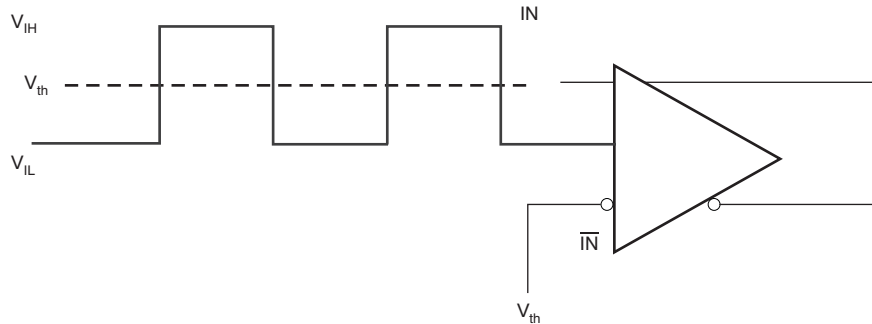
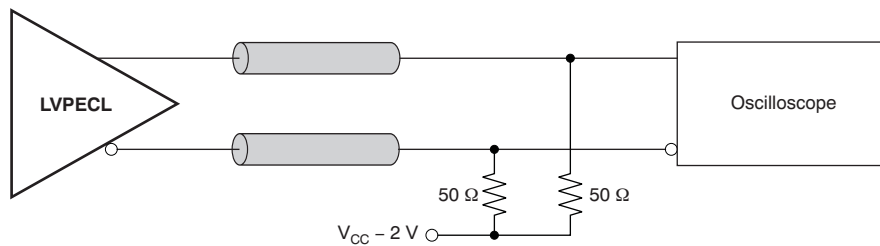
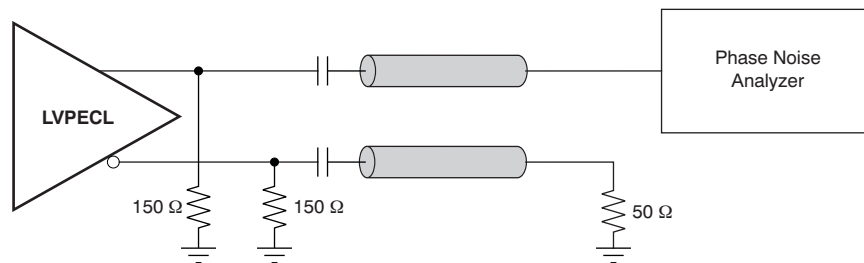

Figure 3. DC-Coupled LVCMOS Input During Device Test
Figure 8. LVPECL Output DC Configuration During Device Test
Figure 9. LVPECL Output AC Configuration During Device Test
(1) Figure 8 and Figure 9 show dc and ac test setup.
(2) Internally generated bias voltage ( $V_{AC,REF}$ ) is for 3.3-V operation only. It is recommended to apply externally generated bias voltage for  $V_{SS} < 3.0\text{ V}$ .
This section describes the function of each block for the CDCLVP1216. Figure 3 through Figure 9 illustrate how the device should be setup for a variety of test configurations.